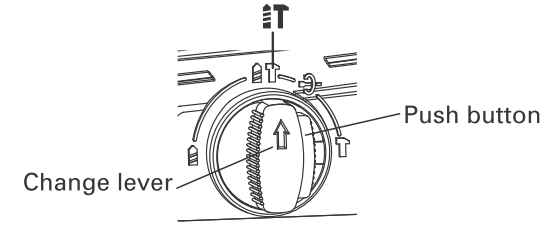

Fig.6
■ This rotary hammer can be set to rotation and hammering mode by pressing the push button and turning the change lever to  mark. (Fig.6) Turn the grip slightly and confirm that the clutch has been engaged with a click.